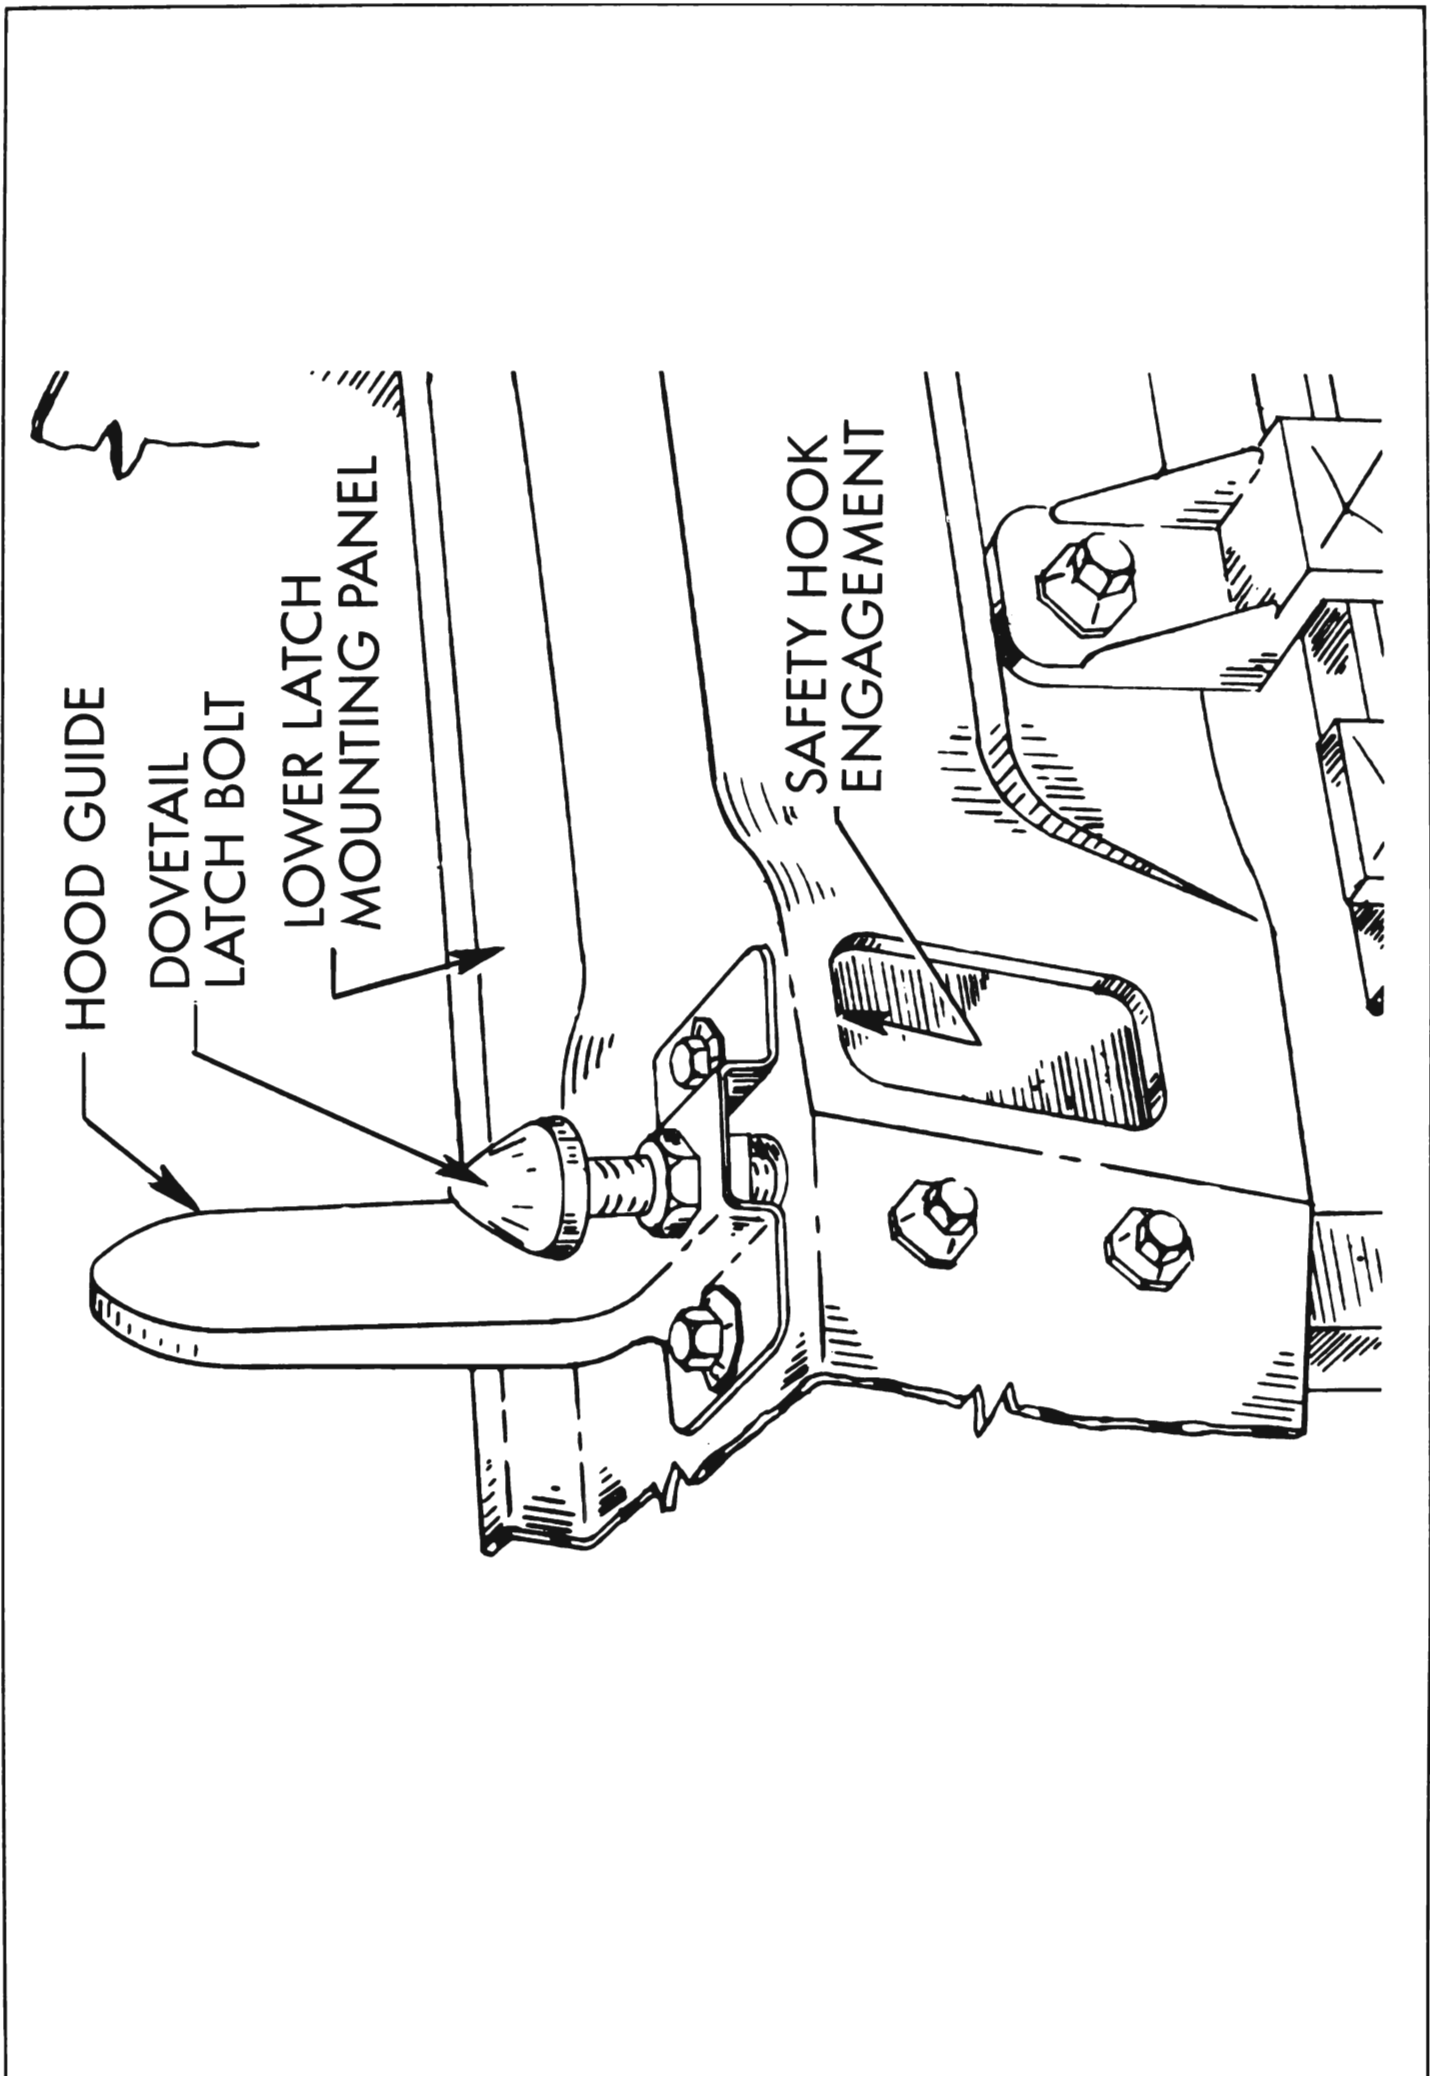

Figure 12-10—Lower Hood Latch Bolt and Guide
retighten the jam nut and close the hood to re-check latch tension. See Figure 12-10.
6. *Latch Alignment.* Raise and lower the front end of the hood slowly several times to check for proper alignment between the latch bolt and guide on the lower panel and the upper latch assembly on the hood. The latch bolt and guide should enter the opening in the upper latch without any side strain or other interference. See figures 12-10 and 12-11.